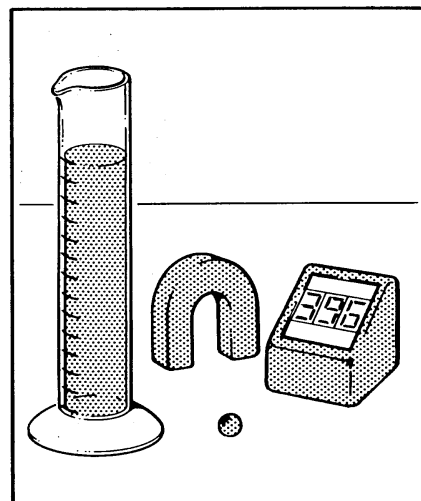

Figure 5 Equipment to investigate the viscosity of oil
- D** Using the magnet, bring the sphere back up to the top of the cylinder. Remove it, and repeat the experiment (Figure 5).